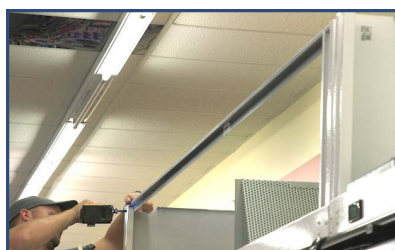

Fig. 89 Install unpainted frame rail
9. Attach the unpainted frame rail between adjacent panels (Fig. 89).